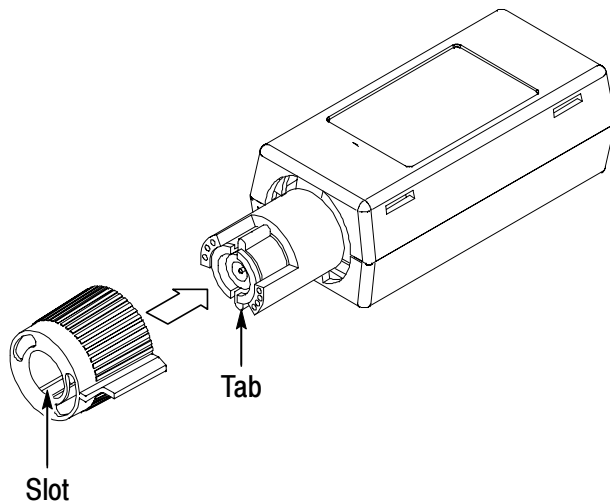

Figure 8: Replacing the TEKPROBE collar
3. Gently press the two pieces together (see Figure 8 below).